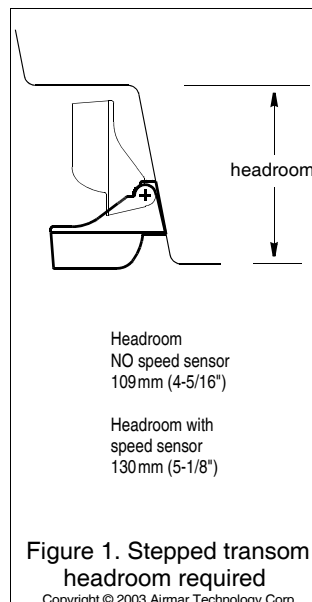

Figure 1. Stepped transom headroom required
- Allow headroom space above the bracket for it to release and rotate the transducer upward (see Figure 1).